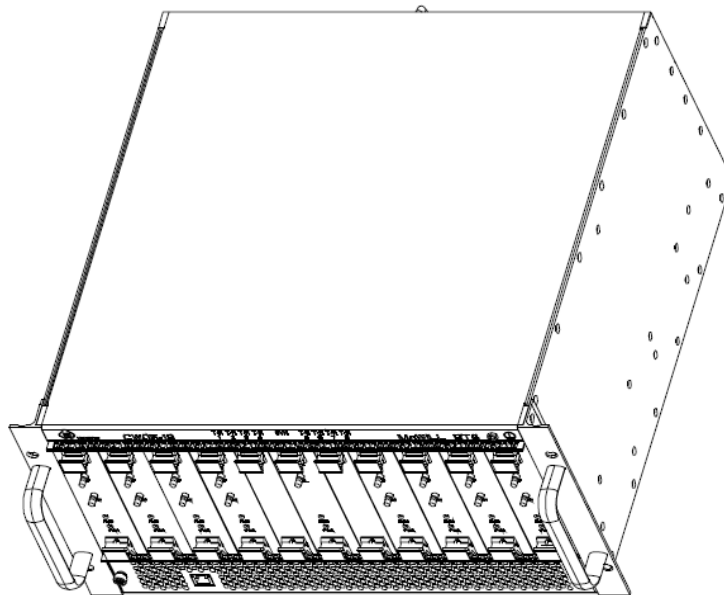

Figure 2-6 BTS structure
- (1) The overall structure of the BTS is shown in Figure 2-6;